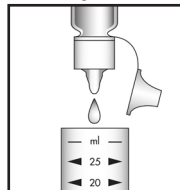

Figure 2
2. Add 8 drops of S-9900 Indicator Solution (fig. 2). Stir to mix the contents of the cup.